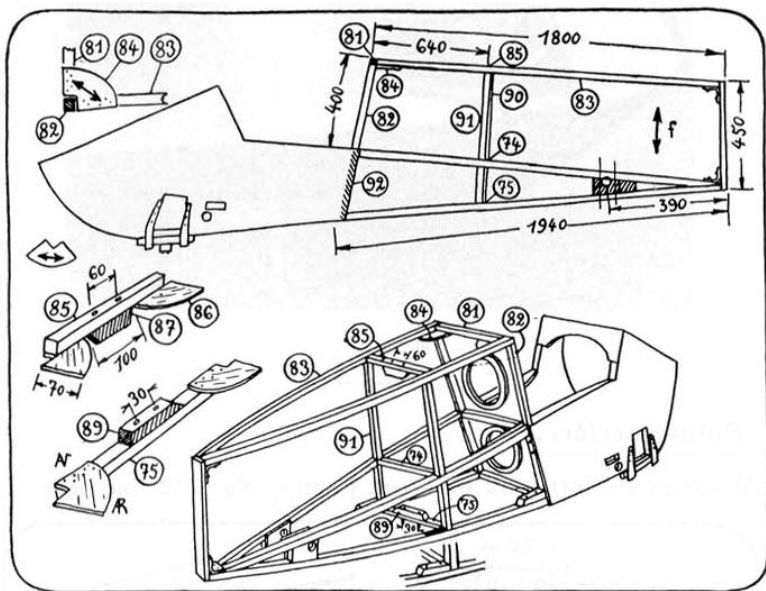

Figure 3.17: Fuselage superstructure
Put in place the vertical and horizontal members (81), (82), fig. 3.17, followed by the longerons (83) fixed to (81) on the front by two gussets (84). The longerons are joined at the rear by a screw, and held apart by the spacer (85) (nailed with gussets) placed about 640mm back from (81). The members (85), (74), and (75) are in the same plane, which, like the tailpost, is al-